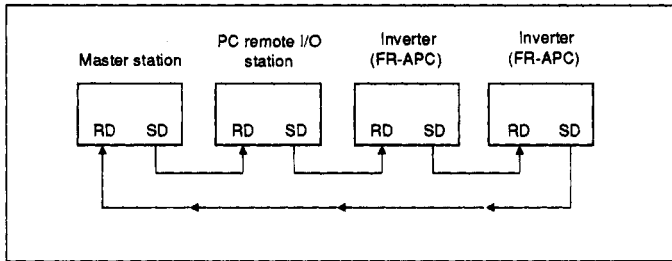

Fig. 4.4 Connection of Optical Fiber
1) Connect the optical fiber cables as shown in Fig. 4.4.